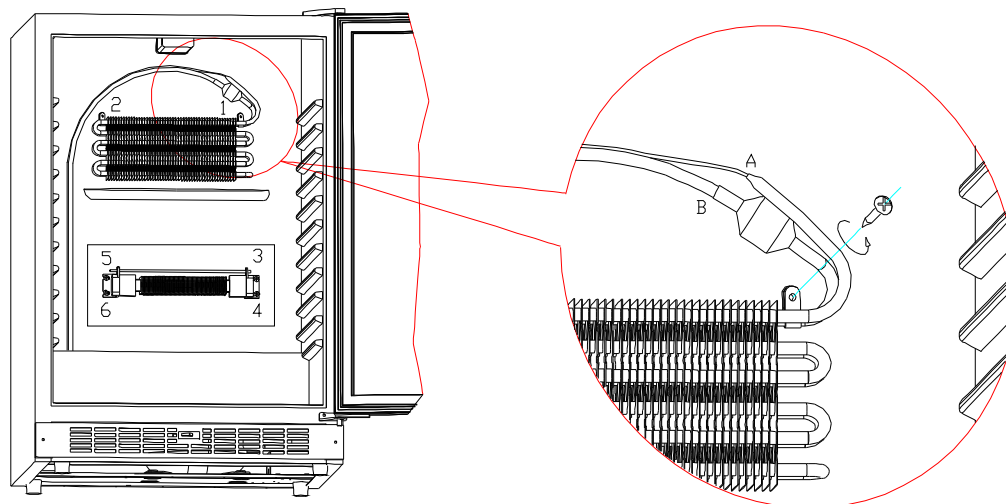

Fig.19
○ Front side joints location. See (Fig.19)
Check the resistance at both sides of PTC heater using a Multi meter; the reading should be approx 1.5 K Ω (assuming normal temperature), if open circuits Replace the PTC heater having once verified the connections to the PTC heater. Remove the fixing screws of heater (3,4,5,6) , replace new one.See (Fig.19).
- 1>. Heat the soldered joint of the capillary ("A" of Fig.19), then remove the capillary from the evaporator and smooth the end with an eraser. (Caution: do not allow any particles into capillary unit)
- 2>. If the capillary touch the inner cabinet and the air duct panel, adjust the position of the capillary and add the incabloc plastic. (Fig.19)